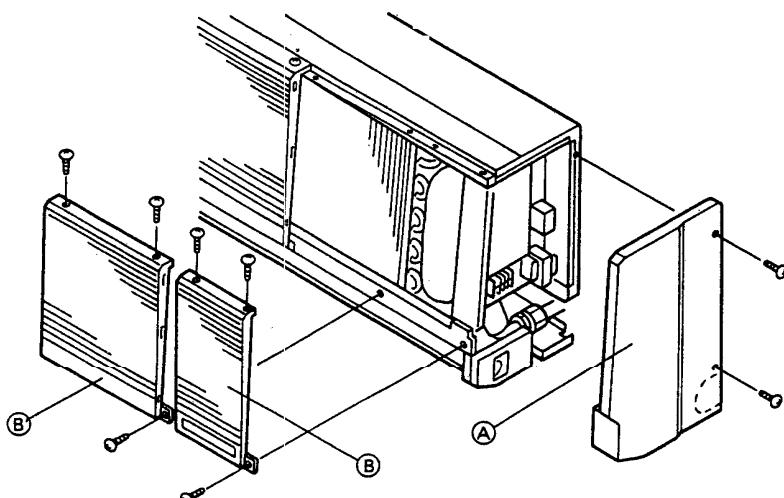

Fig. 2
- 1) Remove the side cover **A** by unfastening two screws. (Fig. 2)